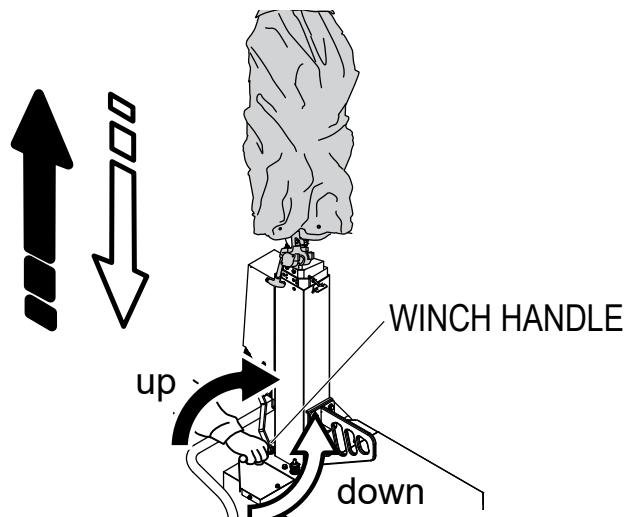

Figure 13. Raising and Lowering Mast
1. Turn the winch handle to raise or lower the mast (Figure 13).